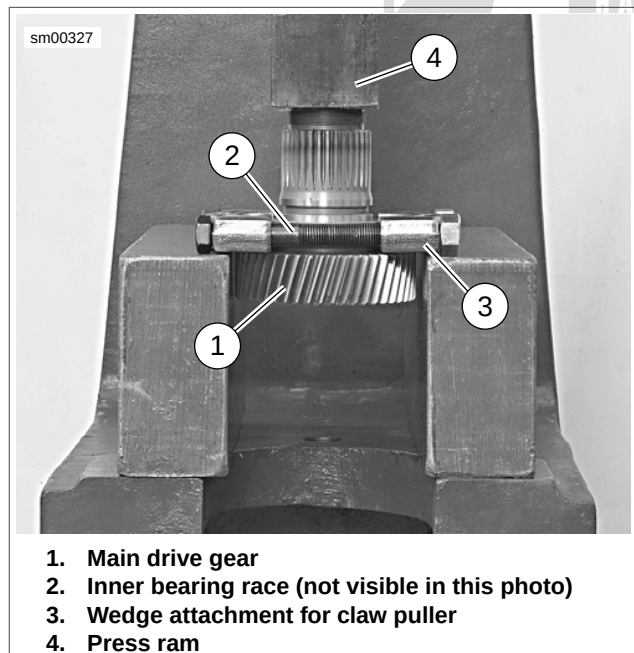

Figure 6-70. Removing Inner Bearing Race from Main Drive Gear
4. See Figure 6-70. Attach WEDGE ATTACHMENT (Part No. HD-95637-46B) for CLAW PULLER (Part No. HD-95635-46) (3) to inner race (2) on main drive gear (1).